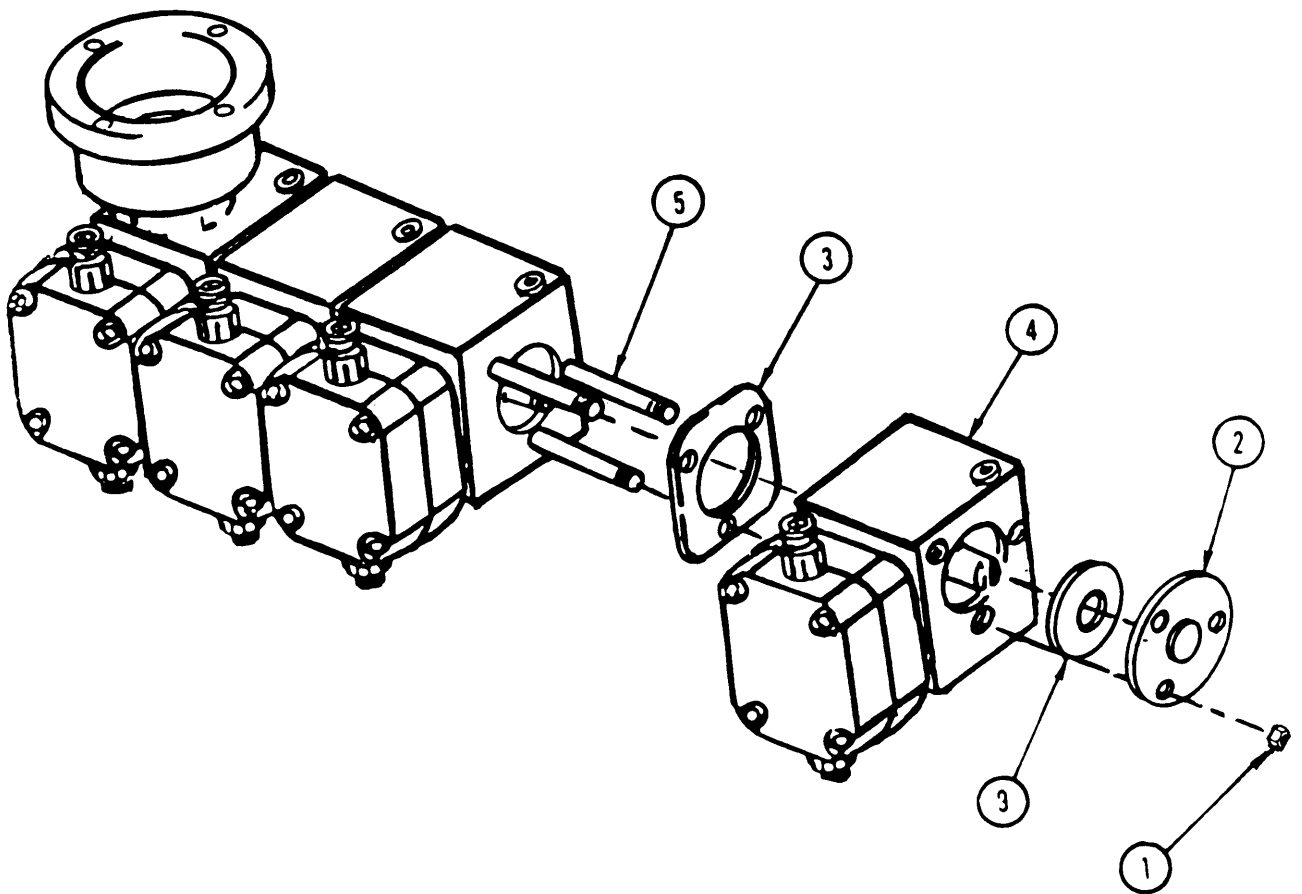

Figure 3-26. Chemical Feed Pump Block/Head Assembly (USMC)
- (3) Remove three nuts (1) (figure 3-26) (USMC) from tie rods holding assembly together.
- (4) Remove end plate (2) and gaskets (3) from tie rods (5). Discard gaskets (3).
- (5) Slide pump block/head assemblies (4) and gaskets (3) off tie rods (5), one at a time.
- (4) Install three nuts (1) on ends of tie rods (5) (figure 3-26) (USMC).